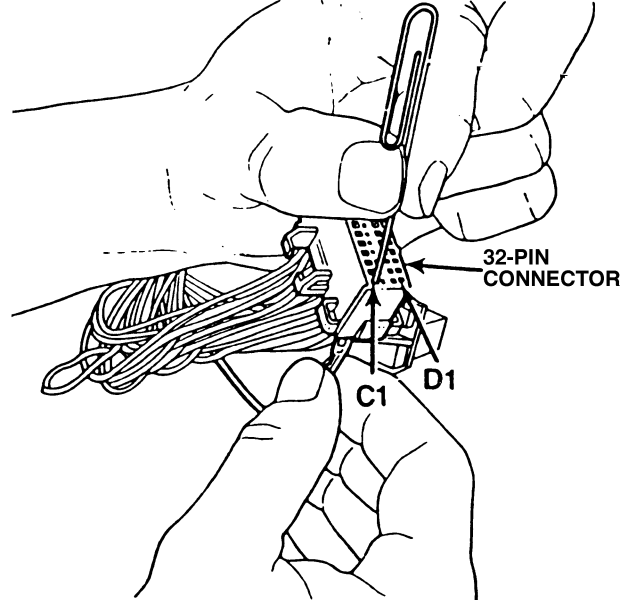

Figure 8.
20. Using a pin pusher (or a large paper clip), remove the white wire with the black tracer from cavity D1 in the 32-pin connector (Figure 8).